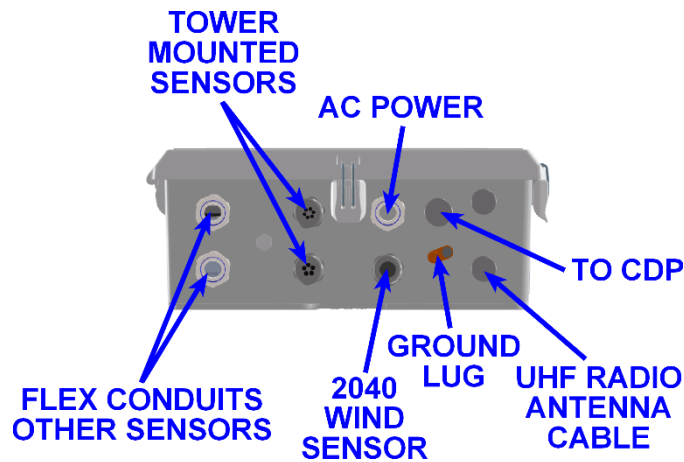

Figure 10. External Connections at Enclosure Bottom
Figure 10 shows the external connections at the bottom of the enclosure.
1. Route the cables from the sensors into the electronics enclosure using the cable glands and grommets shown in Figure 10.
The onboard GPS receiver has a built-in antenna and an SMA connector that can be used for an external antenna. This connector also provides power for active external GPS antennas. The system is configured to use the internal antenna by default. To use an external antenna, attach it to the SMA connector and route the cable through one of the gland seals provided for tower-mounted sensors (Figure 10). Section 3.8.7 explains how to change the system configuration when an external antenna is used. The antenna will likely be mounted near the enclosure on the tower.